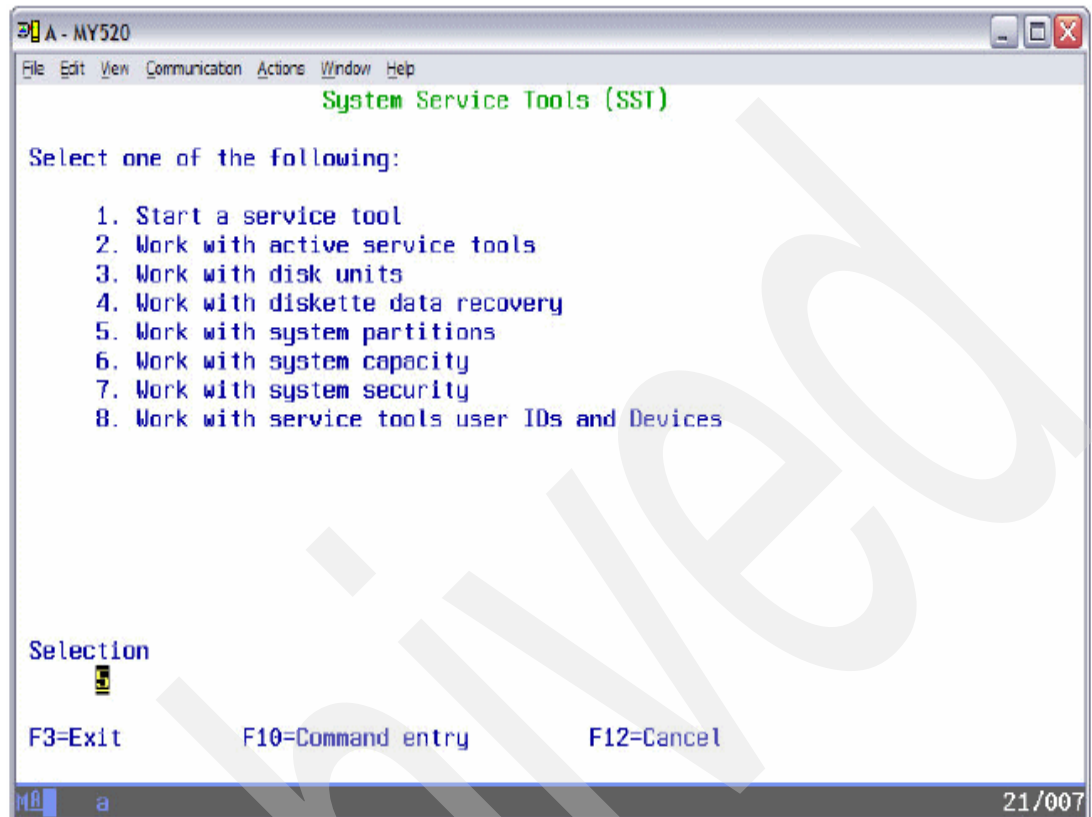

Figure 13-4 System Service Tools (SST)
3. From the Start Service Tools (SST) menu, select option **5. Work with system partitions** as seen in Figure 13-4.